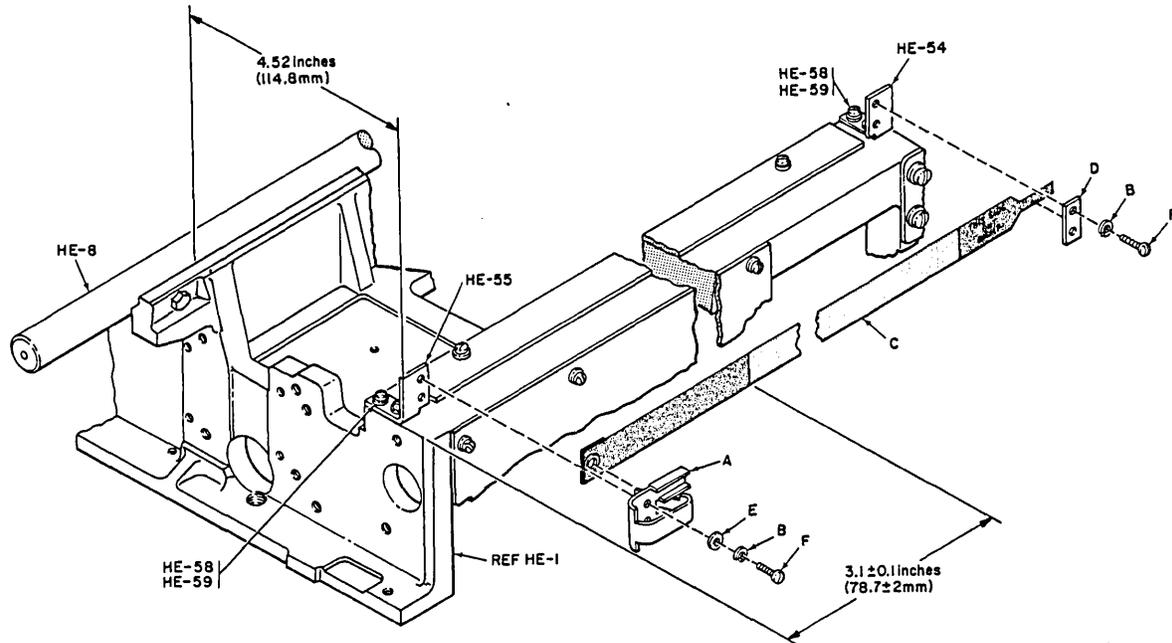

Figure 5-3. FLEXIBLE TIMING FENCE MOUNTING, SERIES 101
- A. The following removable parts are not described in a disassembly/assembly order but their locations are on the Frame (HE) drawing with their key numbers.
- B. Installation of Flexible Timing Fence 63002440 (Fig. 8-6 and Fig. 5-3)
1. Mount spring clasp (Fig. 5-3/A) on left bracket support (HE-55) using two screws (Fig. 5-3/F), two split lockwashers (Fig. 5-3/B) and two flat washers (Fig. 5-3/E). Clasp should be horizontal and perpendicular to printer machine casting (HE-1) when mounted on left bracket support. (HE-55).
2. Mount right bracket clamp (Fig. 5-3/D) using two screws (Fig. 5-3/F) and two split lockwashers (Fig. 5-3/B).
3. Mount left side of flexible timing fence behind clasp (Fig. 5-3/A) by placing mounting hole over spring projection pointing towards back of printer.
4. Insert right side of flexible fence (tab end) between right clamp (Fig. 5-3/D) and right mounting bracket (HE-54). Right side surface of fence should read "THIS SIDE OUT, RIGHT" (facing operator).
1. Loosen screws (Fig. 5-3/F) on clamp (Fig. 5-3/D) and pull tab of fence to the right so that the first window of the fence is located 3.1 ± 0.1 inches (78.7 ± 2 mm) from edge of printer casting (See Fig. 5-3, Ref. HE-1). (Note that this dimension adjusts for a 5/8-inch print margin on printing form).
1. From the front edge of guide bar (HE-8) (Fig. 5-3) measure 4.52 inches (114.8 mm) out to the left and right edges of the fence. Do not exceed given dimensions.
2. If parallelism is not uniform along entire length of fence, loosen screws and washers (Fig. 5-3), (HE-58, 59) in either left or right bracket (HE-55, 54) and obtain equal measurement at both ends. Tighten hardware when correct dimensions have been obtained.